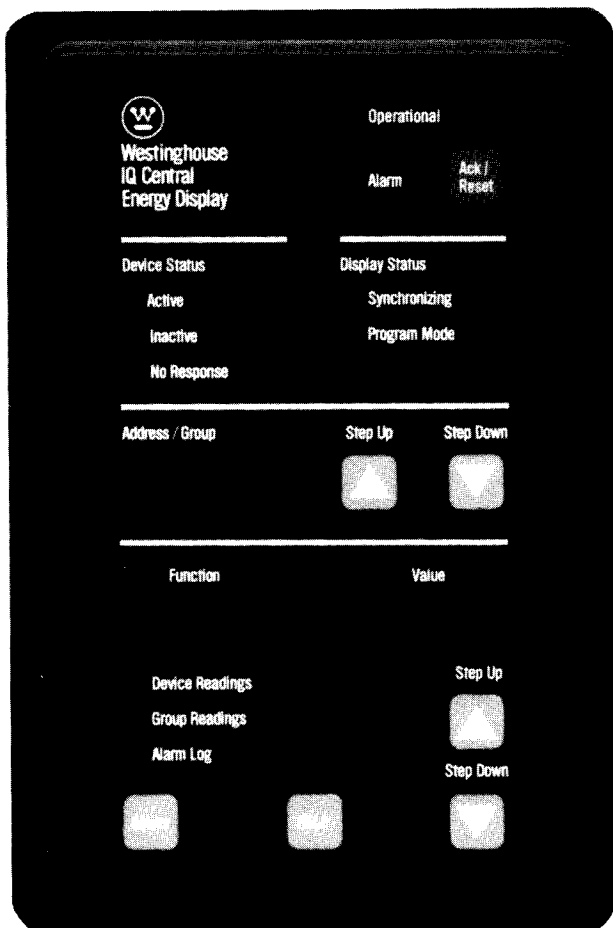

Figure 5.1 — Operator Panel
**5.1 Pushbuttons** — The operator panel supports seven pushbuttons (Figure 5.1) that perform the following functions: